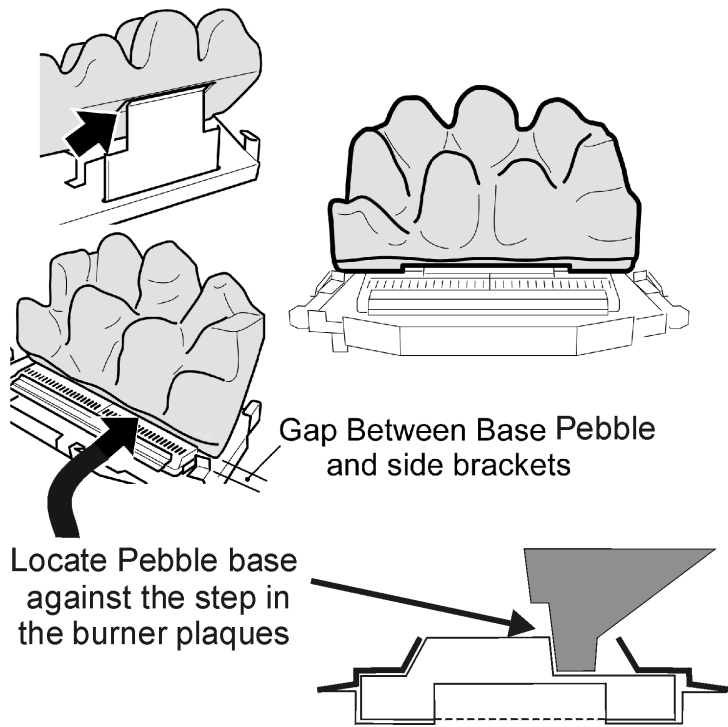

Figure 24. Ceramic Base Pebble Location
1. Place the ceramic pebble base in the burner compartment. The bottom rear face of the pebble base should rest on the angled ledge at the back of the burner tray. The bottom front lower edge of the pebble base should locate against the step in the burner plaques. ***The front edges of the pebble base should not come into contact with the metal tags to the side of the burner tray*** (See figure 24).